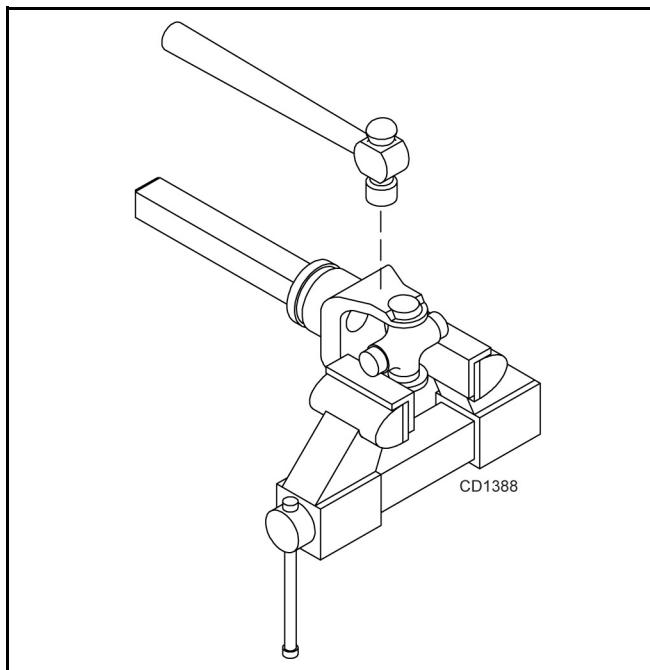

Figure 22
4. Place universal cross in vise as shown in Figure 22 and tap on yoke to remove cup. Repeat Step 3 for final removal. Drive remaining cup out with a drift and hammer.